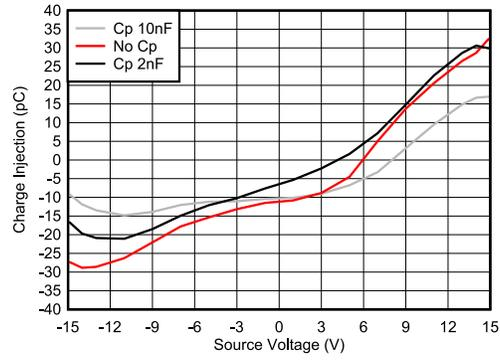

Figure 8-2. Charge Injection Compensation
The MUX708-Q1 contains specialized architecture to reduce charge injection on the Drain (D). To further reduce charge injection in a sensitive application, a compensation capacitor (C_p) can be added on the Source (Sx). This will ensure that excess charge from the switch transition will be pushed into the compensation capacitor on the Source (Sx) instead of the Drain (D). As a general rule of thumb, C_p should be 20x larger than the equivalent load capacitance on the Drain (D). Figure 8-2 shows charge injection variation with different compensation capacitors on the Source side. This plot was captured with a 100pF load capacitance.